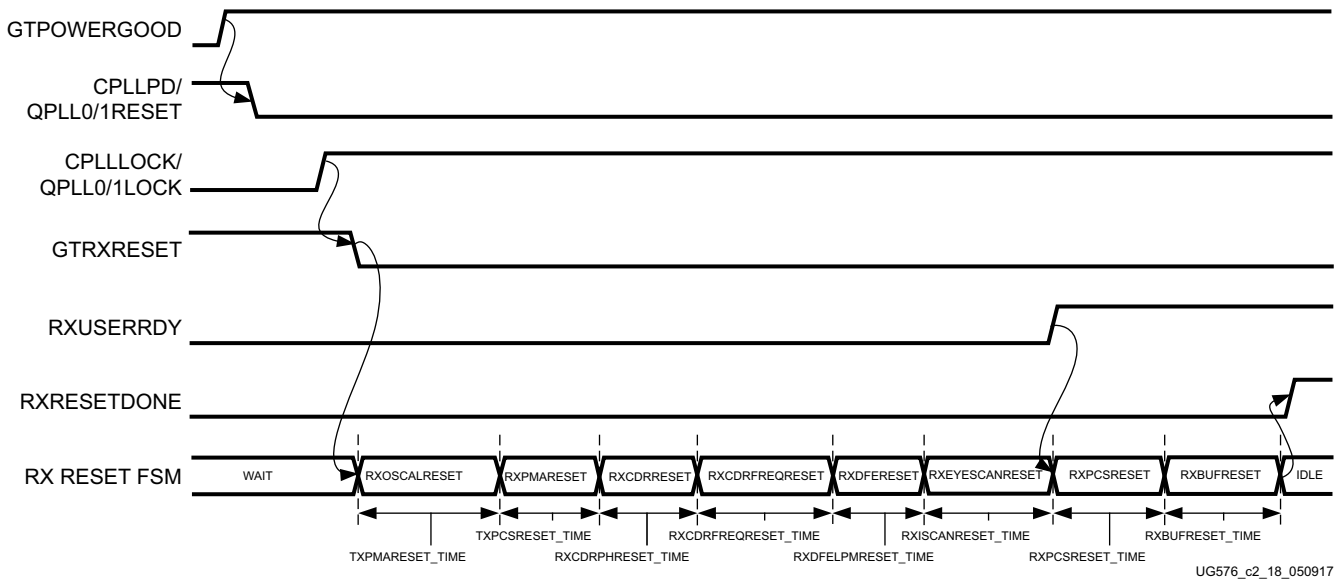

Figure 2-25: GTH Receiver after Configuration
3. Assert CPLLDPD or QPLL0/1RESET and GTRXRESET following the reset sequence described in Figure 2-25.
**RECOMMENDED:** Use the associated PLLLOCK from either the CPLL or QPLL to release GTRXRESET from High to Low as shown in Figure 2-25. The RX reset state machine waits when GTRXRESET is High and starts the reset sequence until GTRXRESET is released Low.